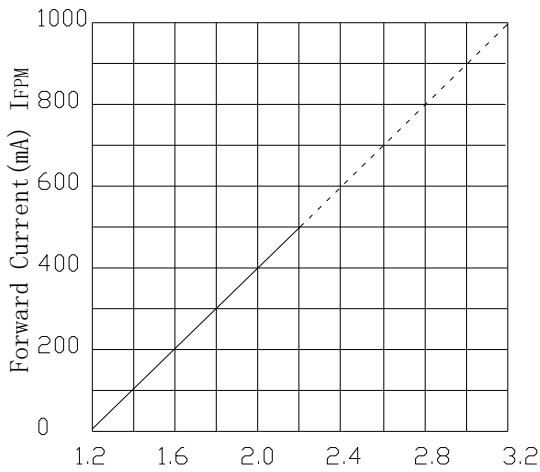

Fig. 3 Forward Current  $I_{FPM}$  VS. Forward Voltage (V)
- 3) Similarly, when a jig is used to solder the LED to PC board, take care as much as possible to avoid steering the leads (See Fig.3).